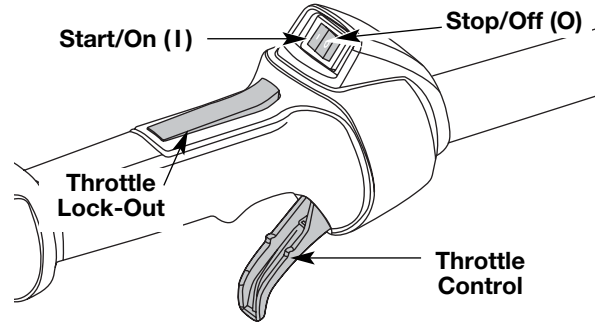
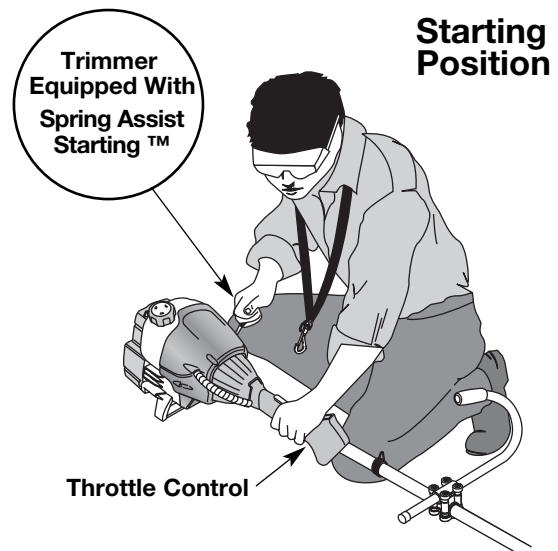

Fig. 16
Fig. 18
WARNING: Avoid accidental starting. Make sure you are in the starting position when pulling the starter rope (Fig. 18). To avoid serious injury, the operator and unit must be in a stable position while starting. Make sure that any Add-On item is installed correctly and secure before starting the unit.
NOTE: Verify the On/Off Stop Control is in the **ON (I)** position (Fig. 16).
4. Crouch in the starting position (Fig. 18), squeeze the throttle lock-out and throttle control (Fig. 16), and pull the starter rope briskly 5 times.
2. Put the On/Off Stop Control in the OFF (O) position (Fig. 16).